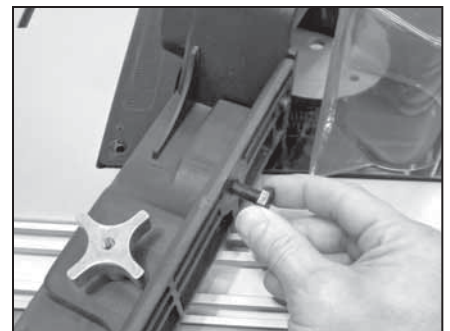

Figure 5
4. Install the aluminum faces onto the fence. Pass an 8mm-1.25 x 25mm hex nut through the holes in the offset fence and the main fence body. Start a small 4 point knob onto each bolt. See Figure 5.